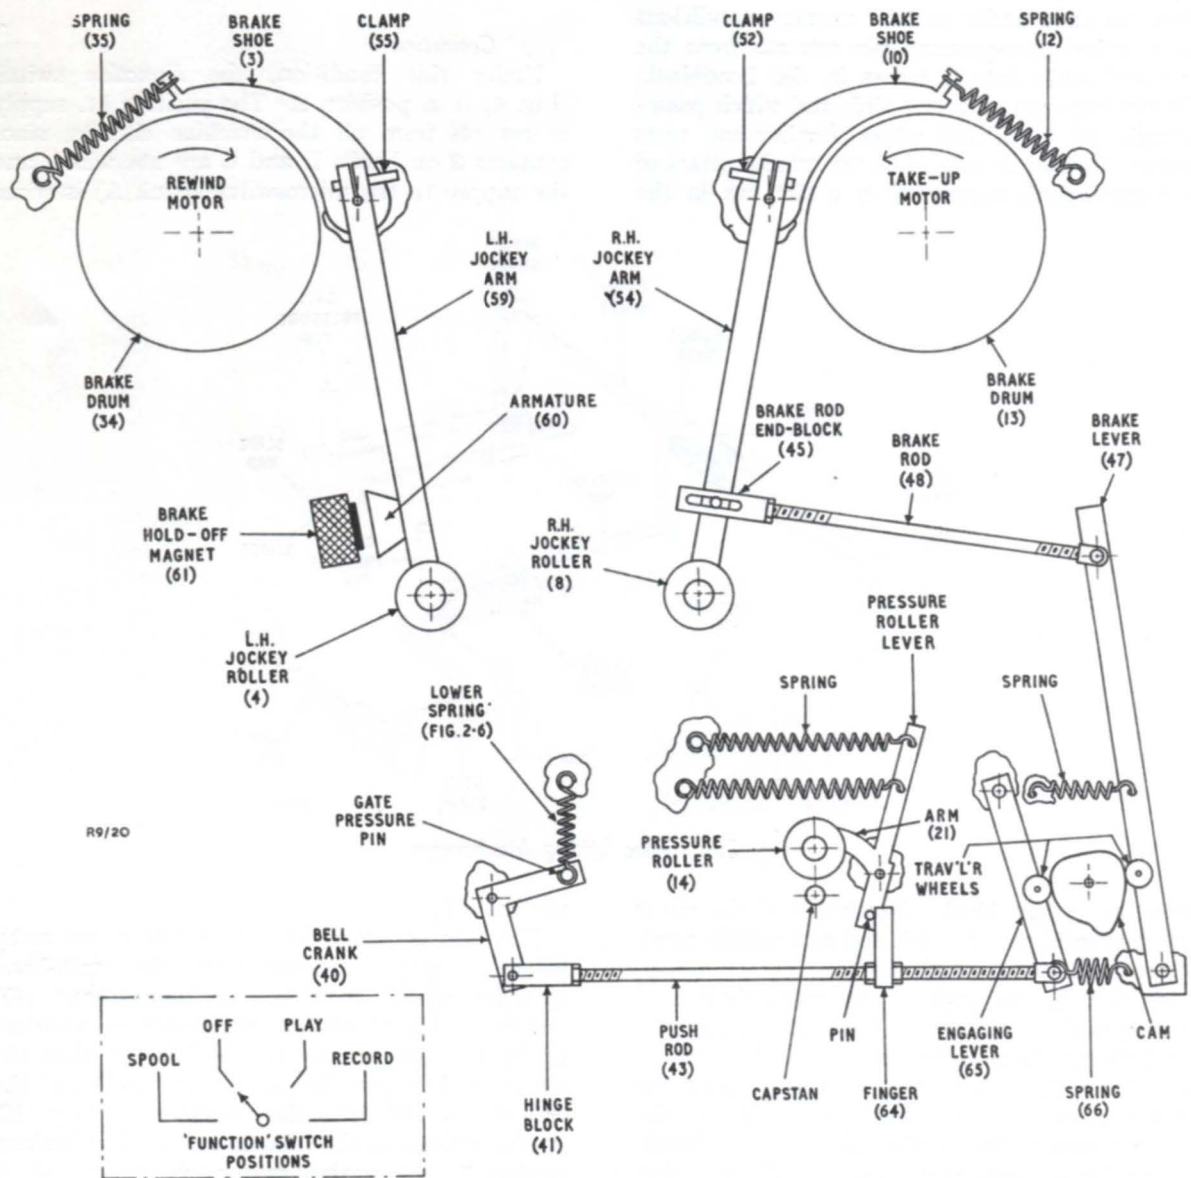
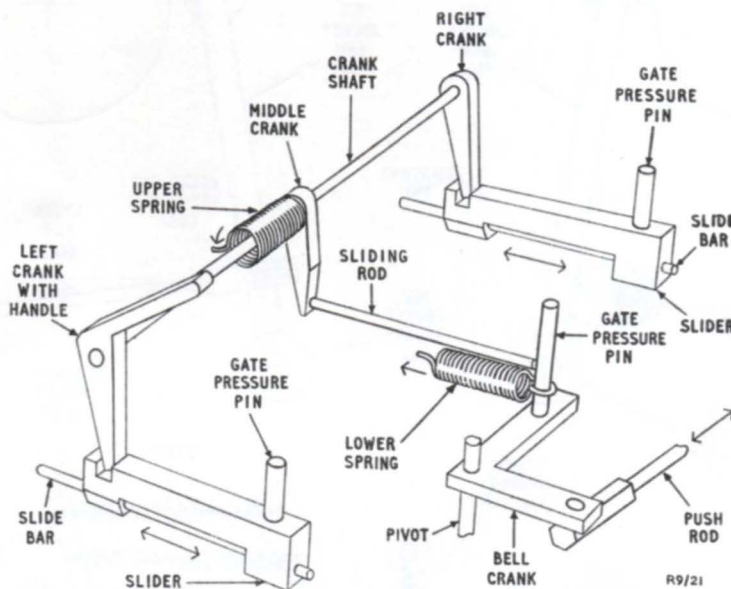

Fig. 2.5. Tape Transport Mechanism
Fig. 2.6. Tape Lifting Mechanism
Figs. 1, 2 and 3 show the mechanical arrangement of the system, while Figs. 2.5 and 2.6 indicate the method of operation. Fig. 4 shows the electrical arrangement.
Mechanical Control System (Fig. 2.5)
A greatly simplified plan view of the mechanical control system, excluding most of the tape-lifting mechanism, is given in Fig. 2.5. The greater part of the system shown is mounted below the deck level,
The brake mechanism of the rewind motor (Fig. 2.5) is not controlled by the cam, but is electrically operated. The brake is held on by spring (35), except (i) when the jockey arm is pulled to the left by tape tension, and (ii) when the brake hold-off magnet (61) is energised via the *Function* switch in the *Spool* condition. When the magnet is energised, it attracts armature (60), although its pull is insufficient to overcome the
(Fig. 2.6) consists essentially of three gate-pressure pins, one at the middle of the headblock and one at each end. The middle pin emerges through an aperture in the deck-plate, and below deck level is mounted on a bell-crank hinged to the push
Tape Lifting Mechanism (Fig. 2.6)
rod (Fig. 2.5). The further end of the push rod is attached as already mentioned to the engaging lever, the mechanism being thus controlled by the cam of the *Function* switch.
In the *Play* and *Record* positions of the switch, the profile of the cam is recessed, and the push rod moves to the right under the pull exerted on the bell-crank by the lower spring shown in Fig. 2.6 and the spring (66) shown in Fig. 2.5. The bell-crank itself rotates anticlockwise about its pivot, so that under normal running conditions the attached gate-pressure pin retreats from the tape and sinks into a recess in the headblock. The pin impinges against a slide rod which passes through the block and whose further end rests against the middle one of three cranks attached to a crank-shaft supported in a slot cut in the
heads at the middle of the block. The upper spring shown in Fig. 2.6 now rotates the crank-shaft anticlockwise, so advancing the left and right-hand gate-pressure pins. A handle is provided on the left-hand crank, so that the two end pins can if necessary be advanced by hand.
The left-hand end of the push rod moving to the left imparts a clockwise motion to the bell-crank (40) which appears in both Fig. 2.5 and Fig. 2.6. The attached gate-pressure pin advances from its slot in the headblock, allowing the sliding rod to be pushed forward by the middle crank under the action of the upper spring. The movement of the middle crank is conveyed via the crankshaft to the left and right cranks. These in turn advance the slide bars at either end of the headblock which carry the other gate-pressure pins.